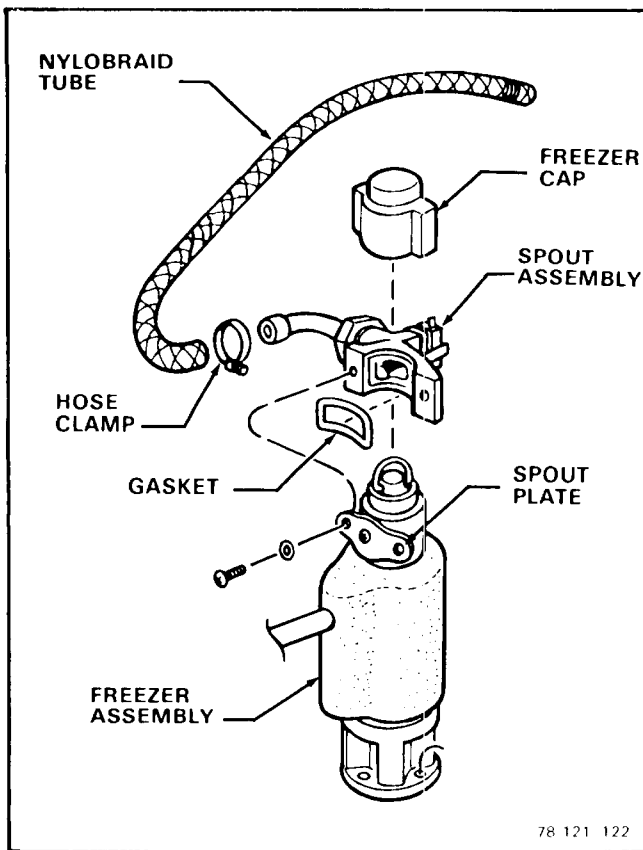

Figure 4-4. Removal of the Spout Assembly.
A. To Remove the Spout Assembly, See Figure 4-4: